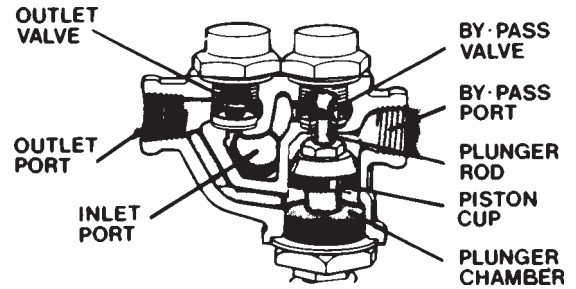

Figure 21
8. Hypro Unloader Valve (Figures 21 and 22).